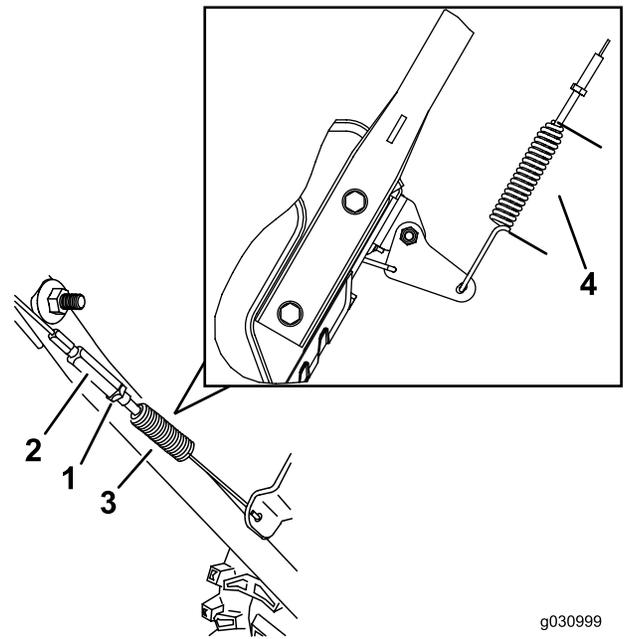

Figure 29
3. Loosen or tighten the turnbuckle to adjust the spring length to 5.5 cm (2–3/16 inches) as shown in Figure 29.